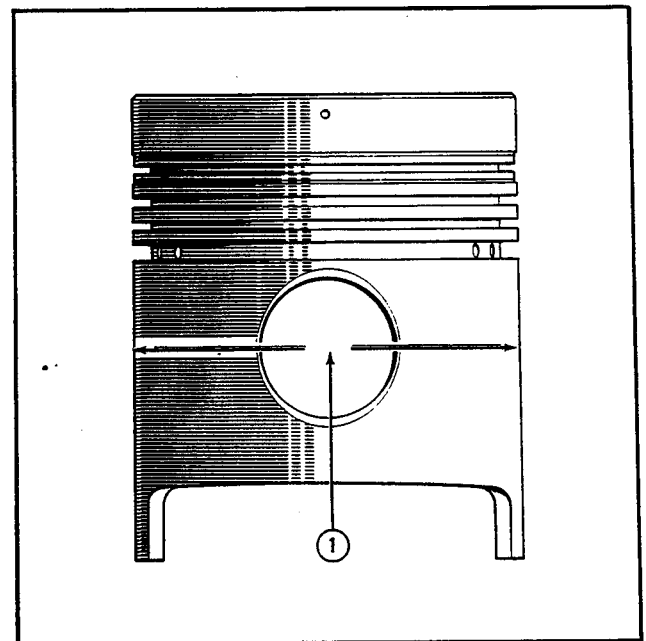

Figure 52
5. With an outside micrometer, check and record the "W" diameter of the piston to be fitted, Figure 52.